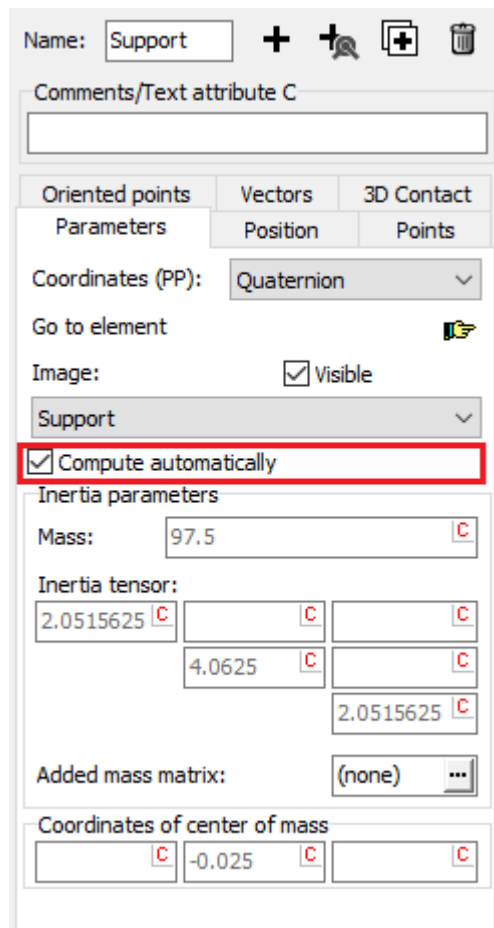

Figure 3.3. Automatic computation of inertia parameters using graphical image
4. Turn on **Compute automatically** inertia parameters using the image of the body mode, Figure 3.3.
4. For all bodies turn on **Compute automatically** flag, Figure 3.3.